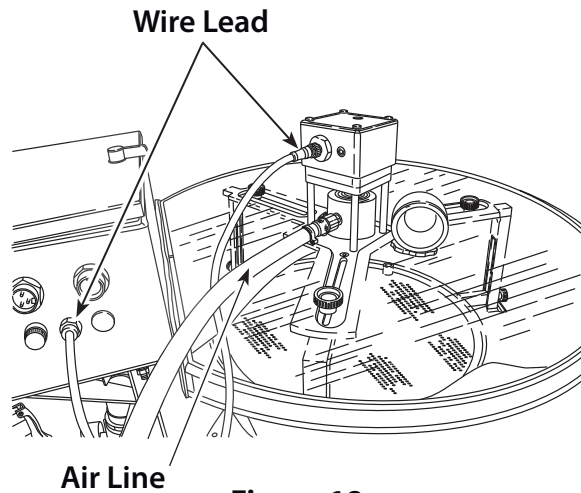

Figure 18
1. Attach the wire lead from the Control Box onto the motor fixture. (Figure 18)